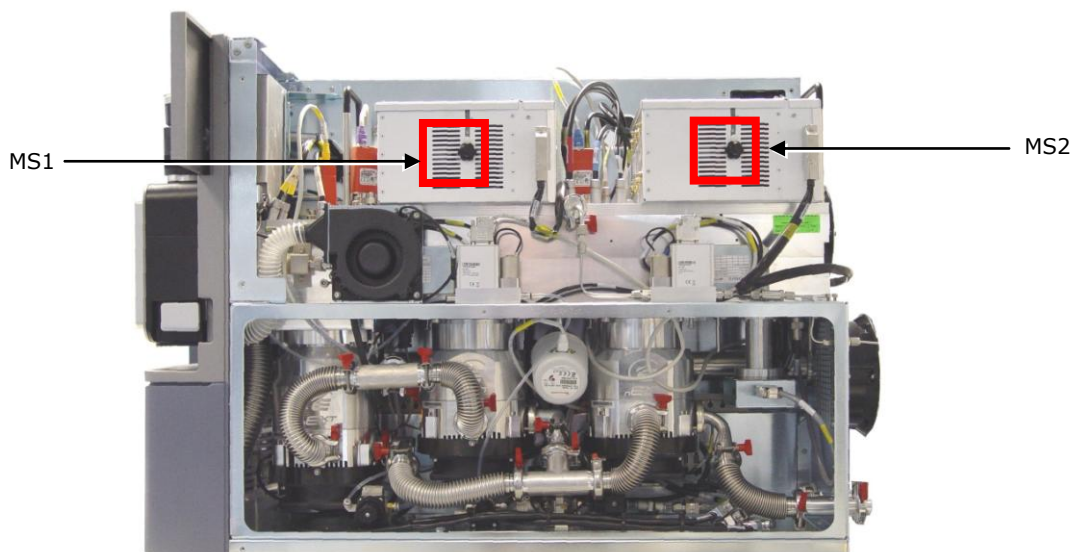

Figure 31 - Quadrupole RF generator tuning controls
7. Locate the tuning control on the generators, see Figure 31.